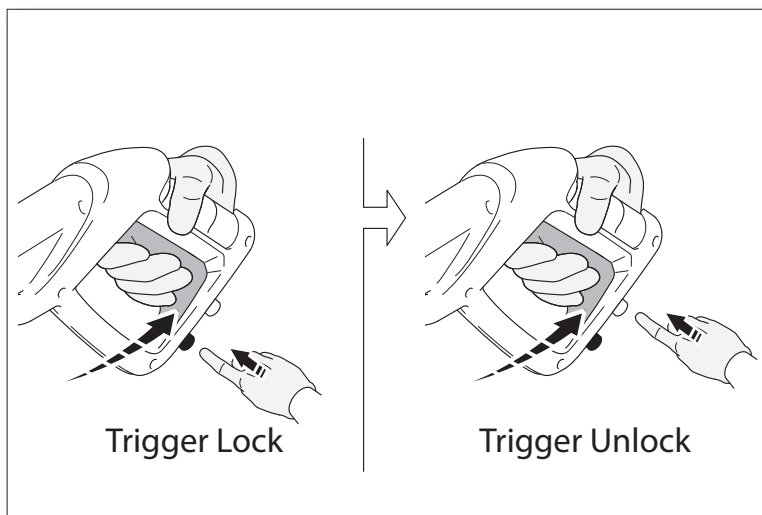

Fig. 21
- Release the safety lock button on the spray gun by pressing the safety lock in the back under the handle (*Fig. 21*). While pointing the spray gun in a safe direction, squeeze the trigger on the spray gun until there is a steady stream of water, letting the water and air out of the hose. Press the button in front to lock the trigger.
- Turn the power switch to the ‘ON’ (I) position. The unit will turn on for 1 - 2 seconds and shut off, this is a normal function of the (TSS) auto start feature. Squeeze the spray gun trigger to begin pressure washing.